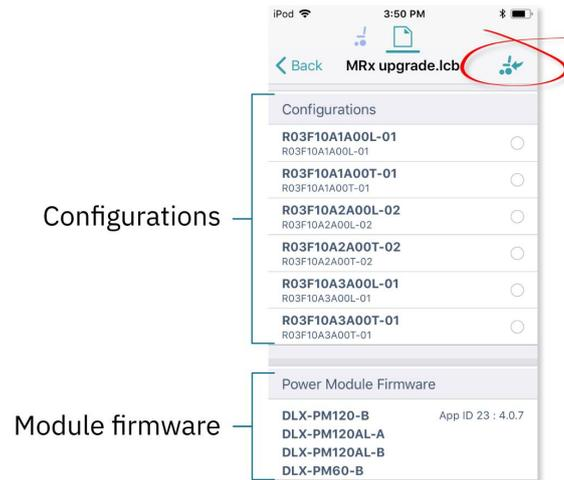

Figure 71: Contents of bundle file
4. Tap on the bundle file (*.lcb) that you want to write to the wheelchair. The contents of the bundle file will be displayed — see *Figure 71* — with configurations at the top, and module firmware below.